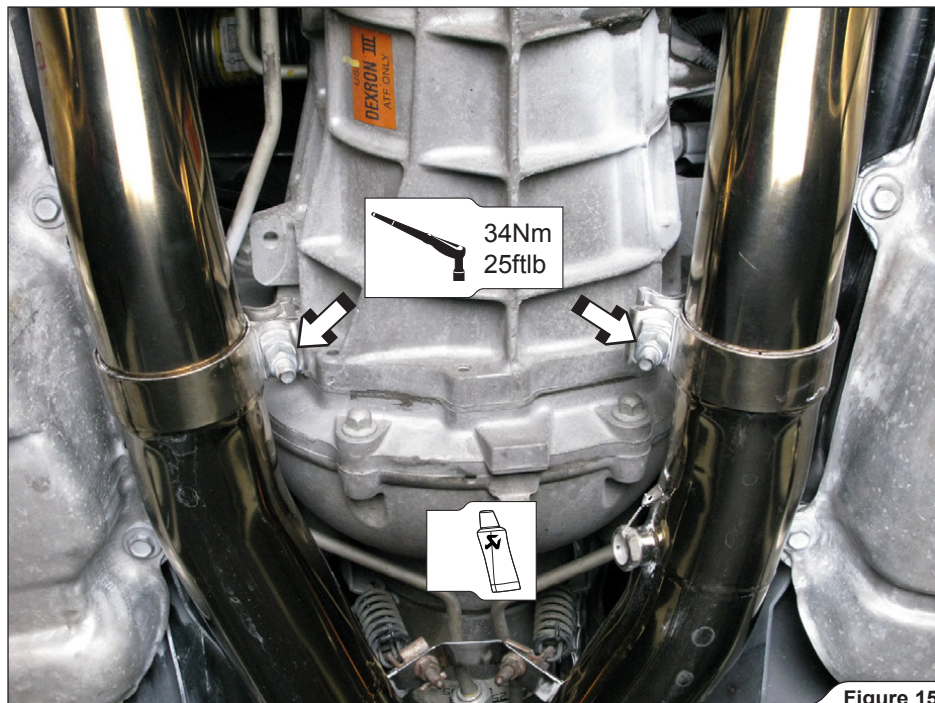

Figure 15
5. **For Slip-On and Evolution:** slide the muffler inlet tubes into the front tubes and tighten the metal clamps to a specified torque (**Figure 15**).